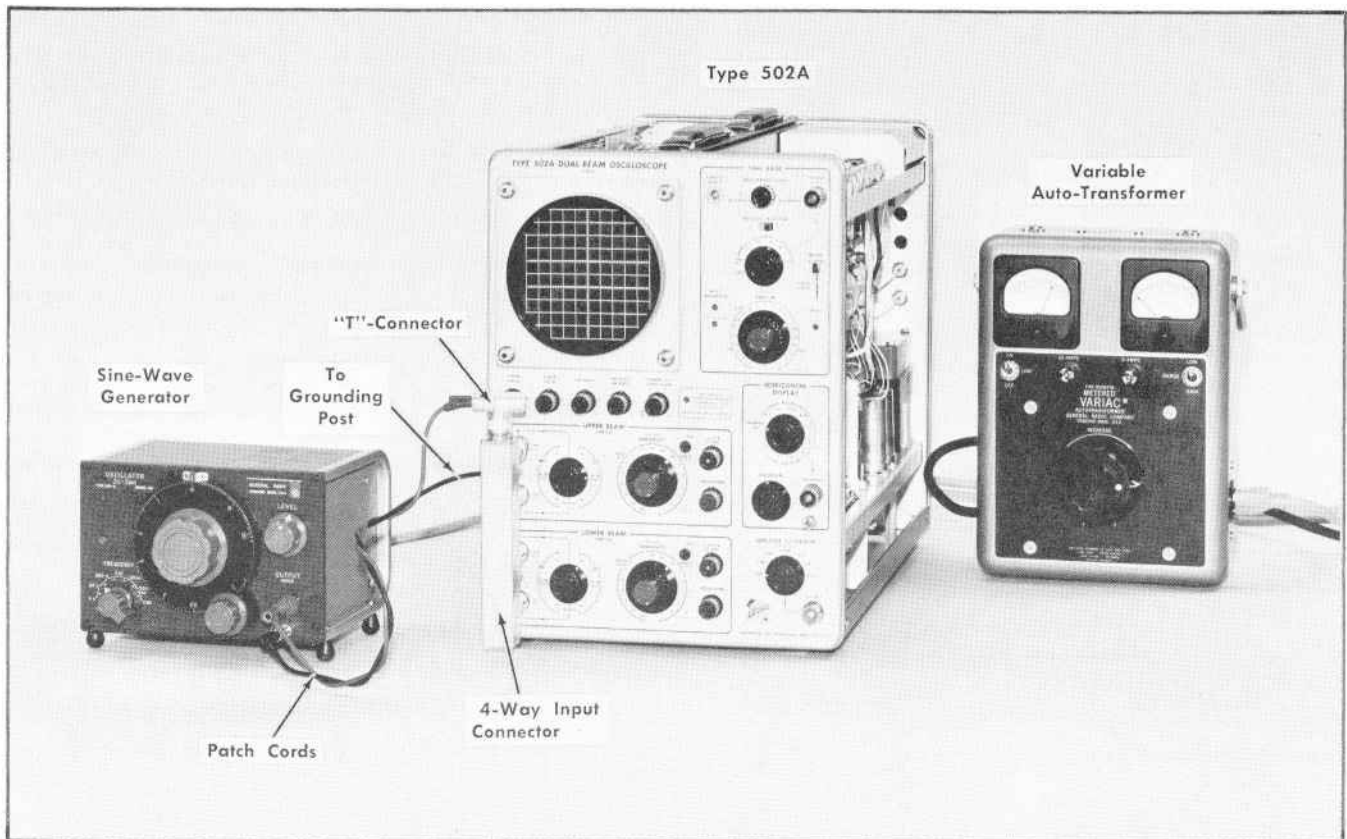

Fig. 6-20. Test equipment setup for checking and adjusting Common-Mode dynamic range (step 26).
- Average random noise level should not exceed 3 mm. (See Fig. 6-20.)
- Connect the equipment as shown in Fig. 6-20.